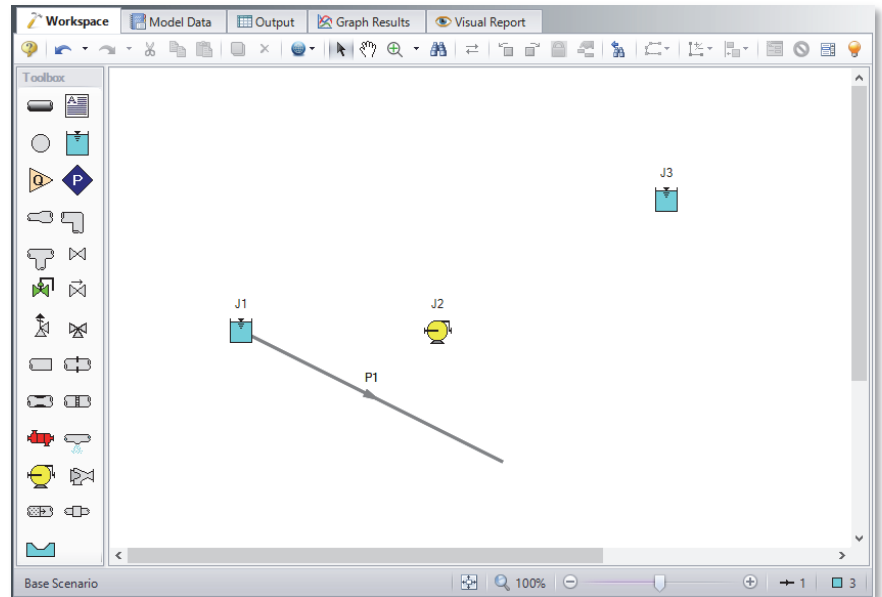
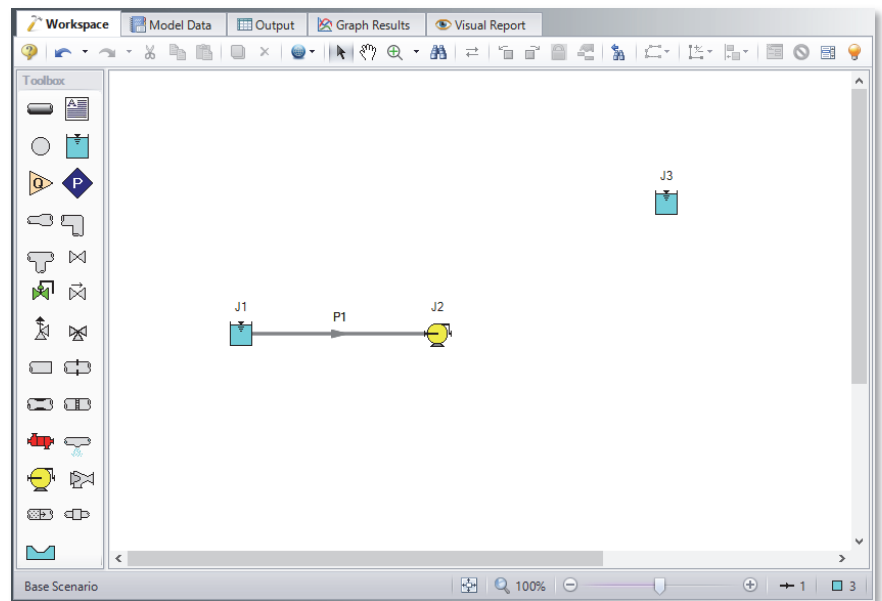

Figure 2.5d Pump Sizing model with first pipe partially connected
Figure 2.5e Pump Sizing model with first pipe connected
- **To place the pipe between J1 and J2,** use the mouse to grab the pipe in the center, drag it so that its left endpoint falls within the J1 Reservoir icon, then drop it there (see Figure 2.5d). Next, grab the right endpoint of the pipe and stretch the pipe, dragging it until the endpoint terminates within the J2 Pump icon (see Figure 2.5e).